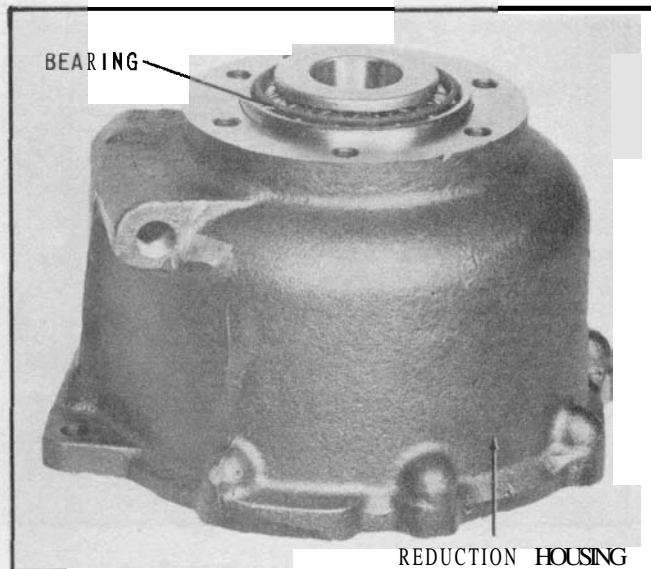

Fig. 25 Installing Rear Inner Bearing Race
24. Install the rear bearing cone into the outer race as shown in (Fig.25).